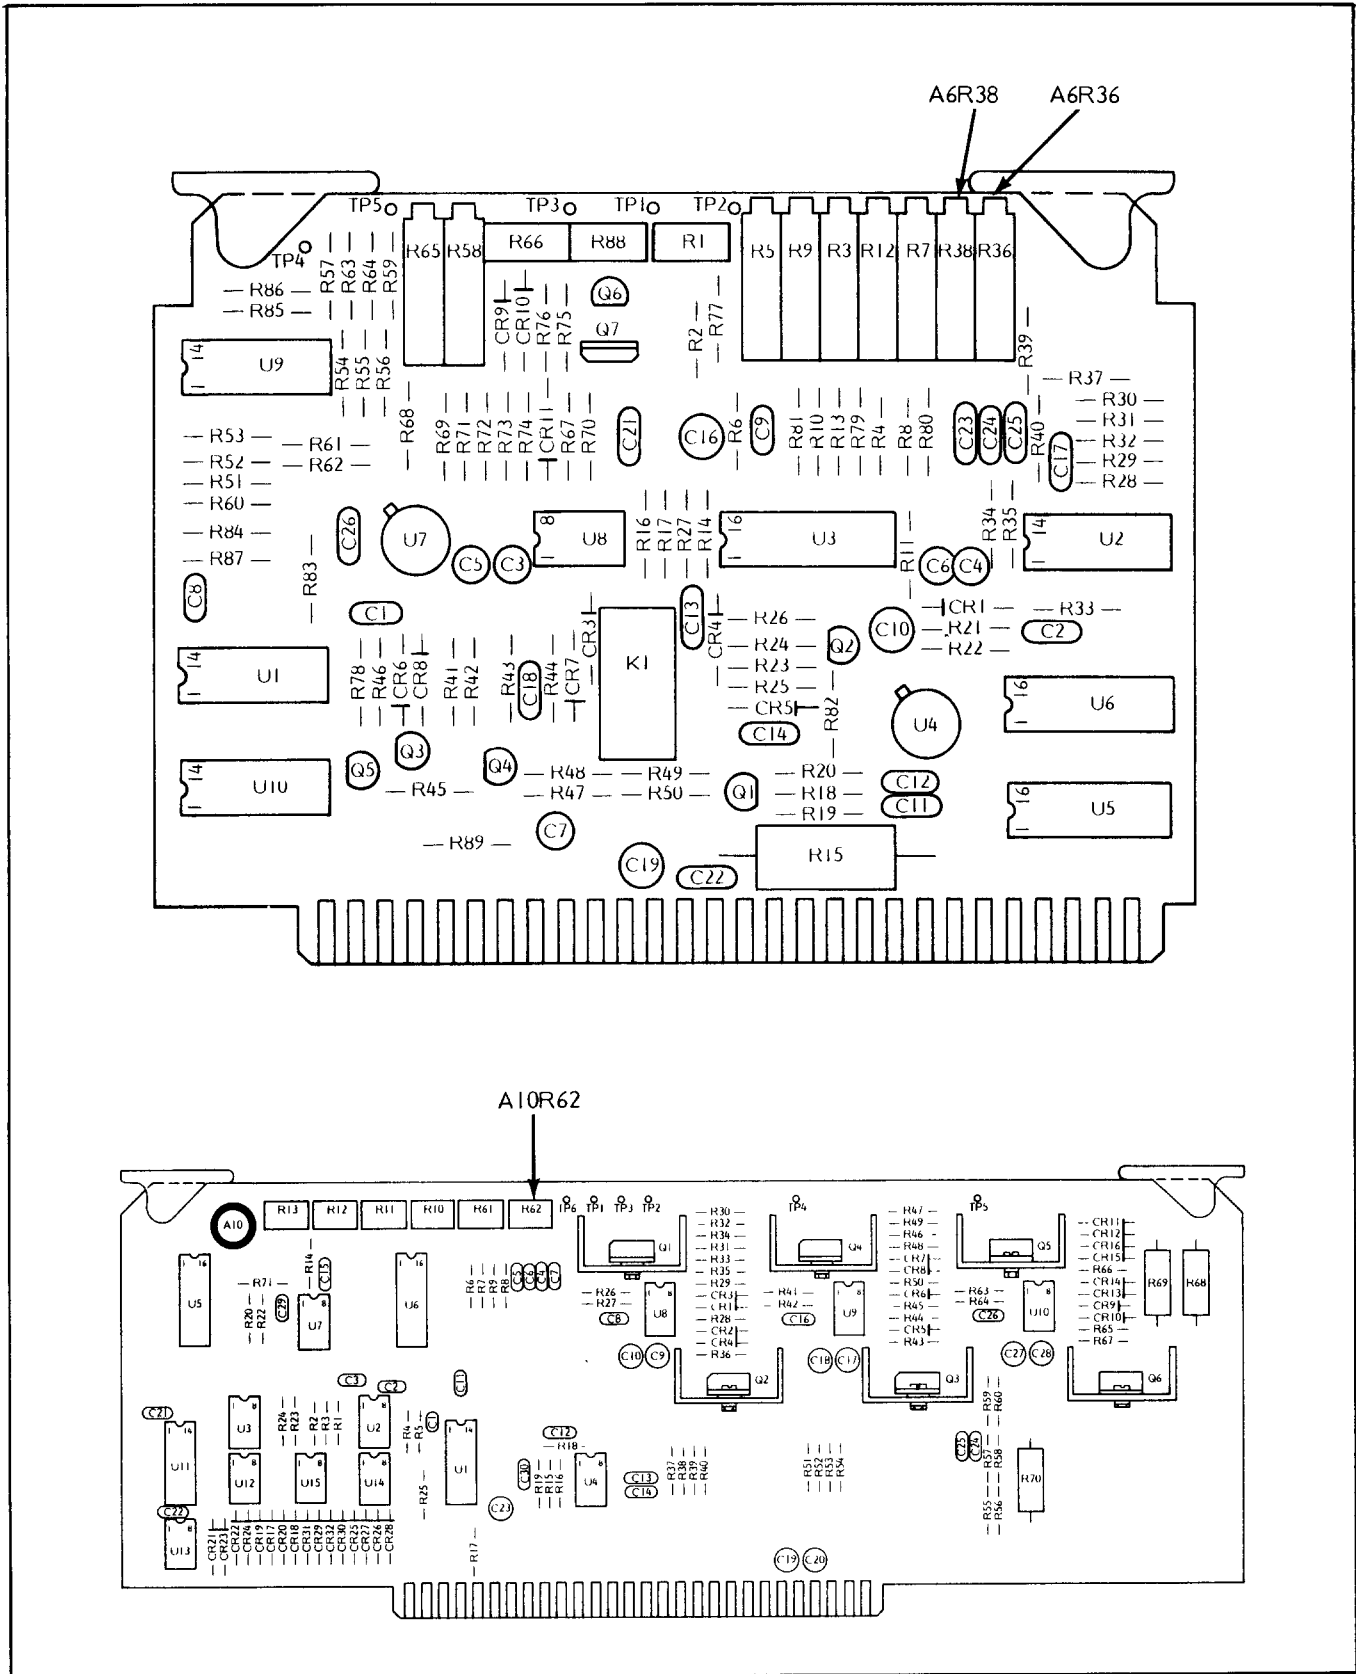

Figure 5-30. Tracking Filter Adjustments
1. alternately adjust A6R36 and A6R38 (Figure 5-30) to obtain maximum output power across the frequency band. A6R36 will adjust power at the low- and A6R38 at the high-end of the frequency band;